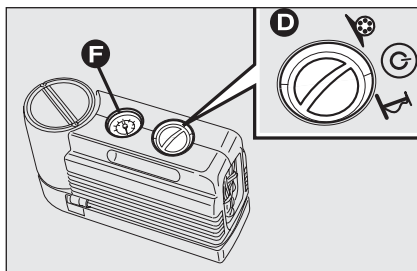
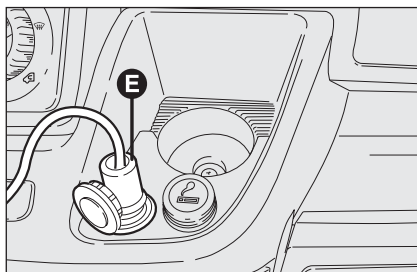

fig. 13
fig. 14
- ☐ insert the pin **E**-fig. 14 in the nearest 12V current socket and start the engine. Turn the selector **D**-fig. 13 anti-clockwise to the repair position. Activate the kit by pressing the on/off switch. Inflate the tyre to the pressure specified in the "Inflation pressure" paragraph, in the "Technical Data" chapter.
For a more accurate reading, it is advisable to check the pressure reading on the pressure gauge **F**-fig. 13 with the compressor off and without moving the centre selector from the repair position;